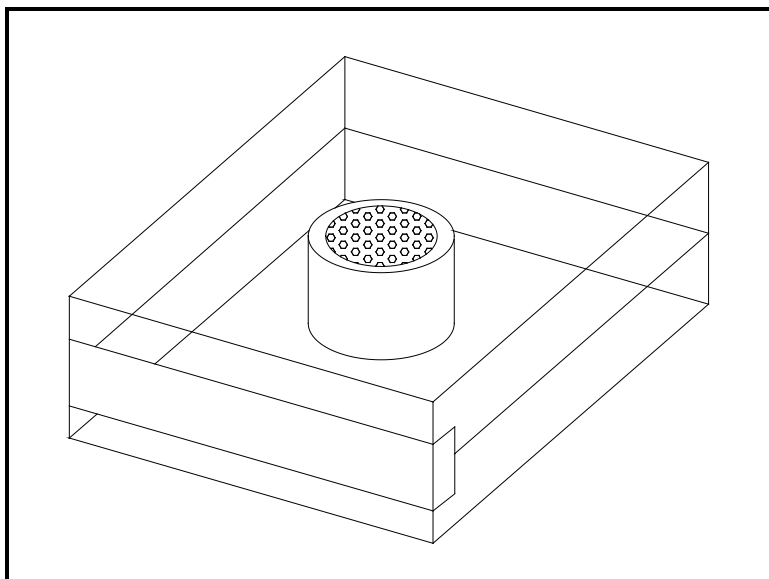

Figure 3: Packaged Oxygen Sensor
1. Remove the oxy.IQ and the separately-packaged oxygen sensor (see *Figure 3* below) from the shipping container. Keep the shipping container and packaging material for possible future use.
5. Open the airtight package (see *Figure 3 on page 6*) and remove the oxygen sensor from the package. To maintain the oxygen sensor's energy level, remove the red grounding tab and **immediately** install the sensor in the oxy.IQ